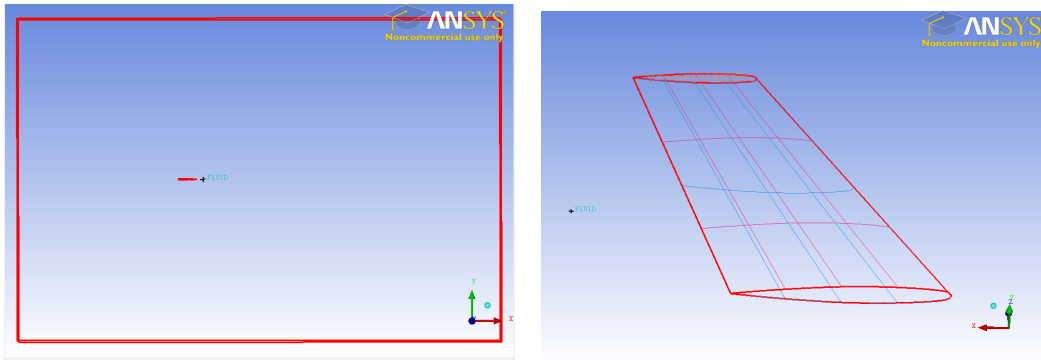

Figure 2.2: The M6 geometry file passed all tolerance checks.
1. Assuming that you did Step 1 from the **ANSYS ICEM CFD Tutorial Manual** arriving at a geometry as shown in figure 2.2, which did not have any tolerance problem (if there was any tolerance problem, then the edges would be coloured in blue or yellow, and the tolerance is kept to the minimum when repairing the geometry).